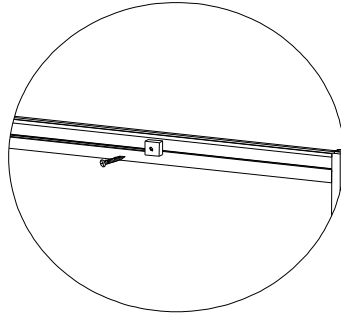

Figure 10
15. Mount the door stops (5) to the rail profiles (10), as shown in figure 10.